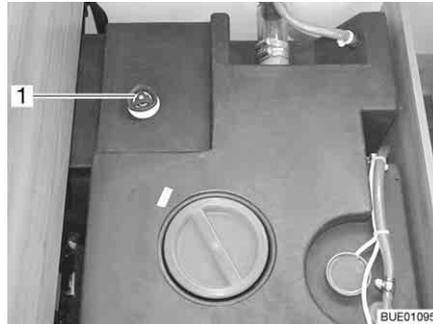

Fig. 244 Water tank with handle
- Turn the handle (Fig. 244, 1) on the water tank in a clockwise direction as far as it will go.
- Turn the handle (Fig. 244, 1) on the water tank in an anticlockwise direction as far as it will go. Excess water will drain away leaving 60 litres in the tank.